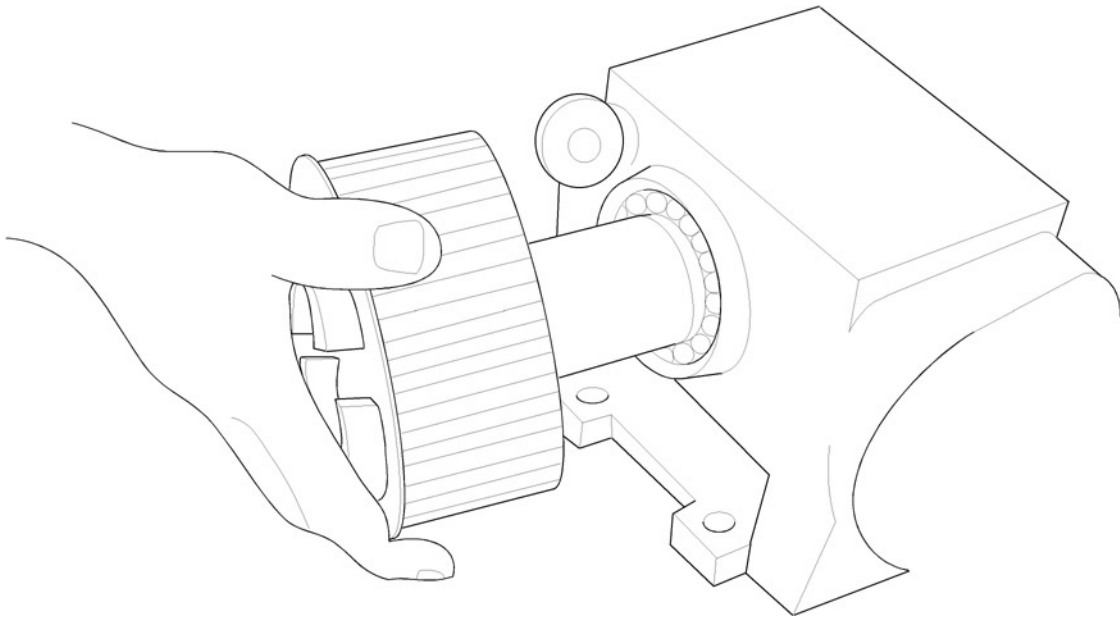

Fig. 5-8 Removing the pulley
11. Re-insert the screws removed in procedure 10 in to the ring block removal holes and remove the pulley as shown in Figure 5-8.